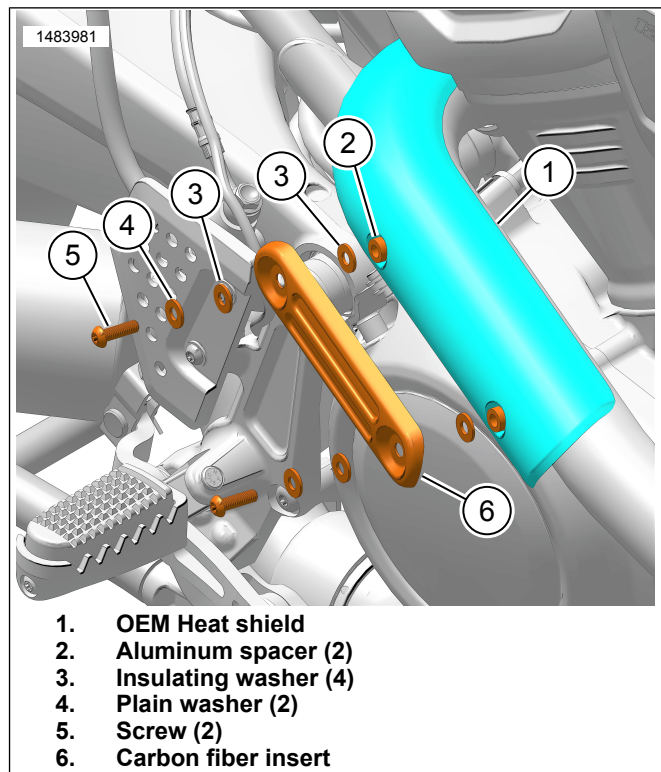

Figure 3. Carbon Fiber Insert
1. Figure 3 Apply threadlocker to screws (5).